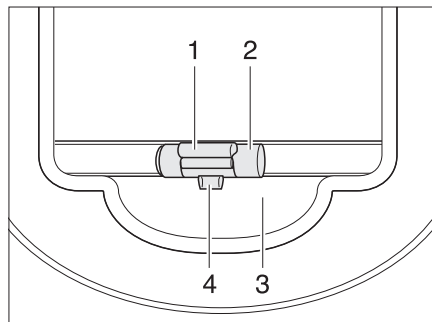

Fig. 28 Blind
**Closing:** ■ Pull blind downwards by the handle (Fig. 28,2) and lock it into place.
**Opening:** ■ Pull blind downwards gently by the handle (Fig. 28,2) and push the unlocking bar (Fig. 28,1) outwards. The lock (Fig. 28,4) is released from the holder (Fig. 28,3).